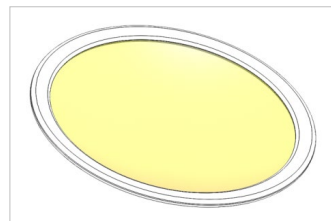

Fig. 5.2.1. Sieve for inserting in the collecting basin
5. Place the sieve in the collecting basin (*Fig.5.2.1 | 5.2.2*).